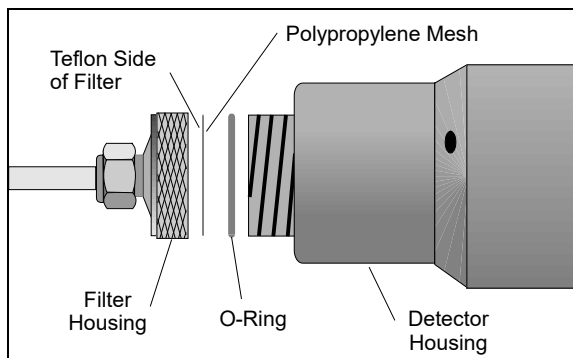

Figure 23 **Inlet Filter**
1. Turn the instrument off. Unscrew the filter housing from the detector housing. Be careful not to lose the O-ring seal. See *Figure 23*.